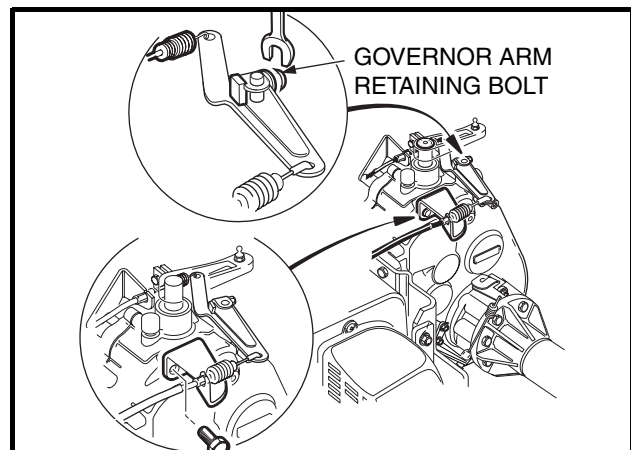

Figure 16-34 Governor Arm and Cable Bracket
18. Loosen, but do not remove, the governor arm retaining bolt. Remove the governor arm from the shaft (**Figure 16-34, Page 16-14**).